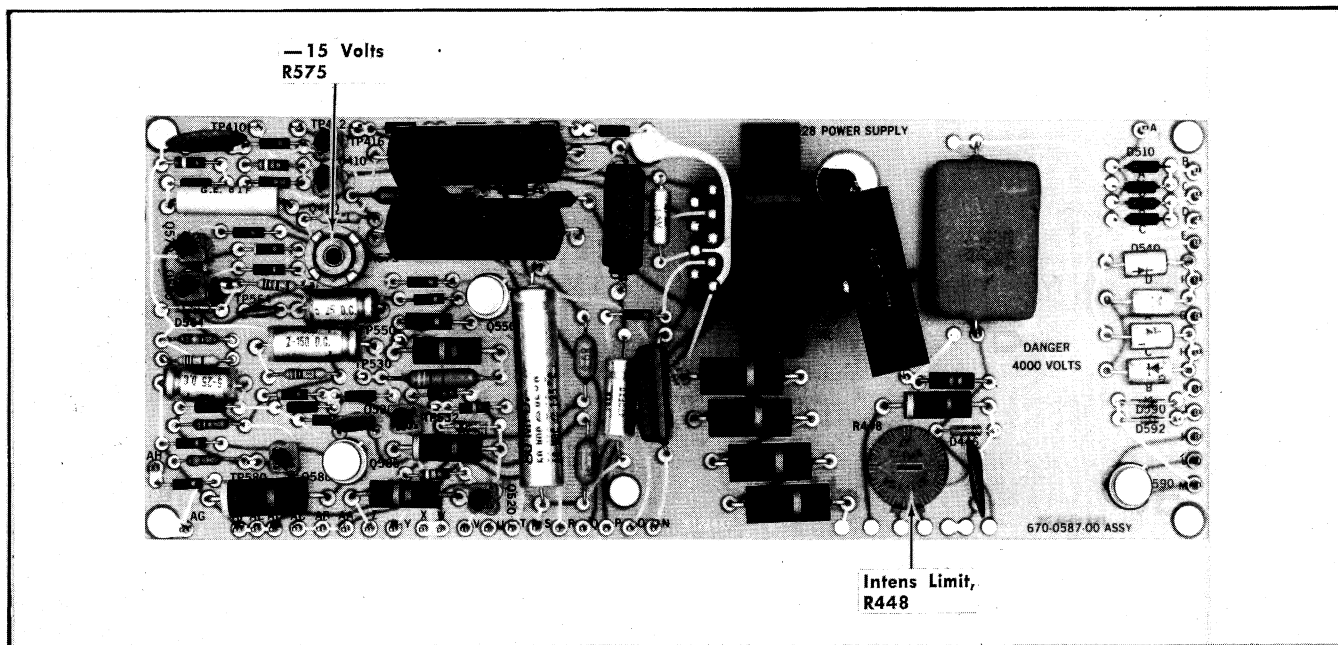

Fig. 5-3. Power supply board test point and control locations.
i. CALIBRATION ADJUST— —15 Volts control, R575, (see Fig. 5-3) until the voltmeter reading in part f (VOLTS FULL SCALE switch set to A1) and part h (VOLTS FULL SCALE switch set at 1 V CAL) show a difference of exactly one volt.
If the display is not stable, the value of C472 (see Fig. 5-3) may be selected to provide proper triggering of the Calibrator display.
g. CALIBRATION ADJUST—Intens Limit control, R448, (see Fig. 5-3) for less than 1 IRE unit of vertical and less than 1 minor division of horizontal display blooming.